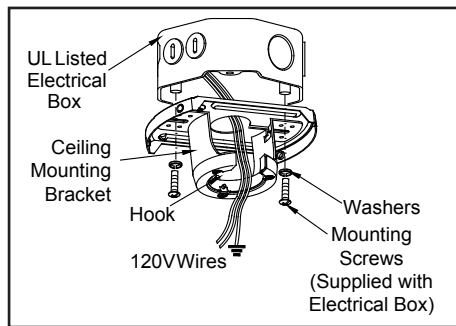

Figure 11
1. Pass the 120-Volt supply wires through the center hole in the mounting bracket. (Figure 11)
2. Install the mounting bracket on the outlet box by using the two screws provided with the outlet box. If necessary, use leveling washers (not included) between the mounting bracket and the outlet box. The flat side of the mounting bracket should face toward the outlet box, as shown. (Figure 11)